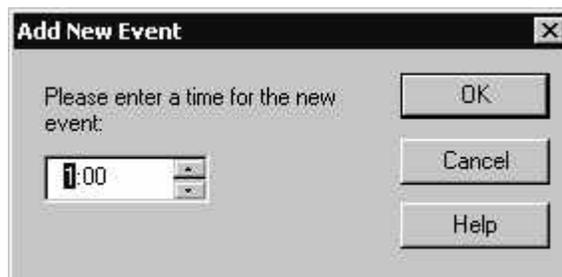

Figure 5.19 Add New Event Dialog
- Optionally add one or more events to the schedule (you can leave a schedule empty to indicate that the scheduler should remain dormant on that day). To add an event, click **Add** under the **Events** list or double-click the first column of the first empty row in the **Events** list. The **Add New Event** dialog opens, as shown in Figure 5.19.